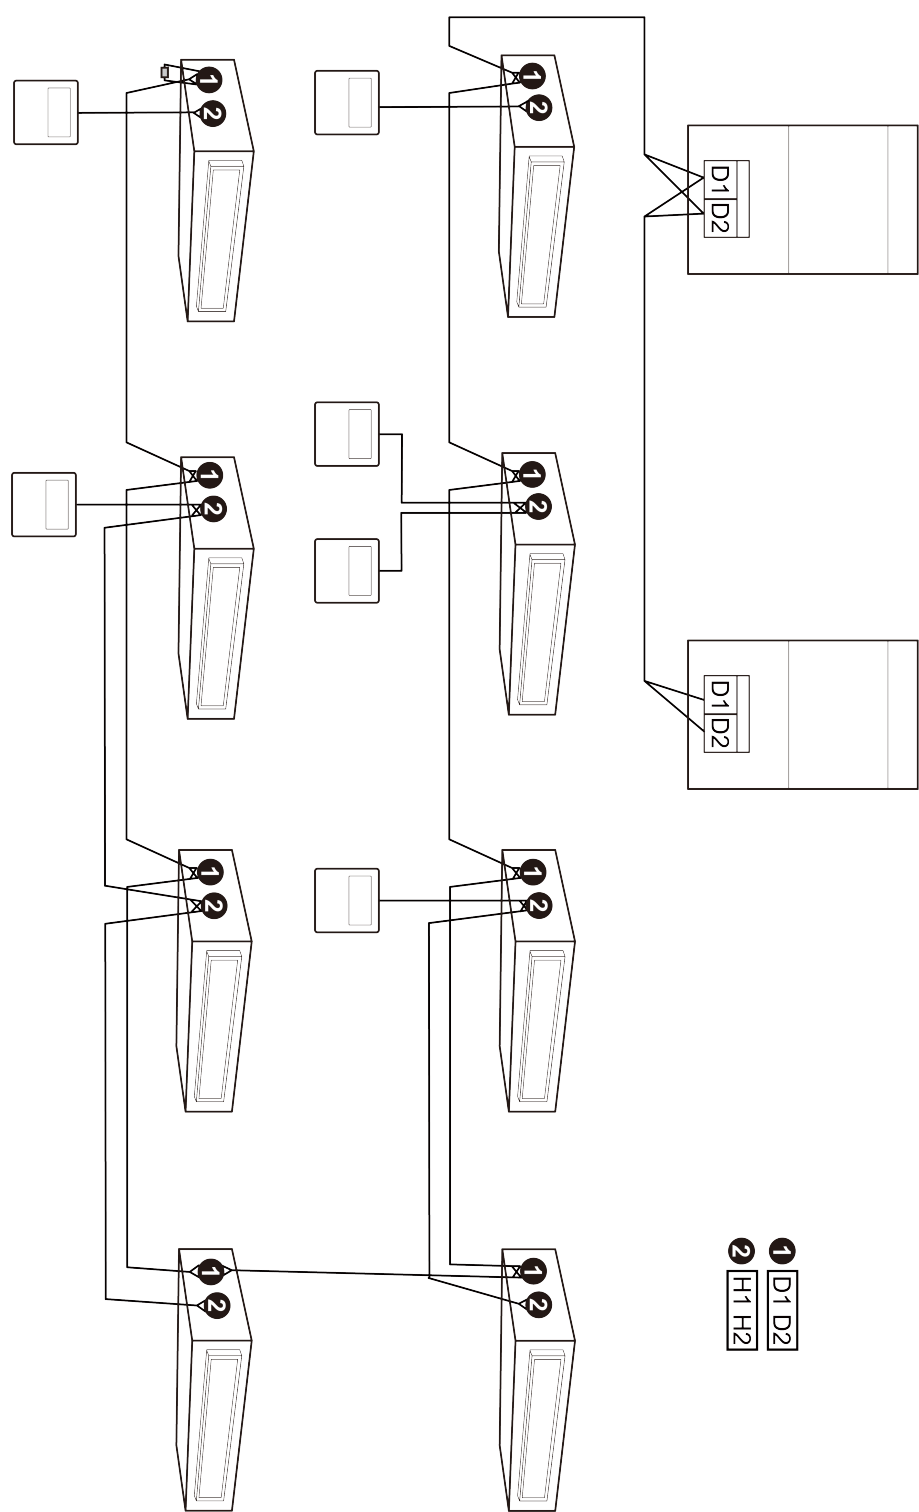

Fig.5.5
- (1) Communication wire of indoor unit and outdoor unit (or indoor unit) is connected to D1, D2.
- (2) Wired controller is connected to H1, H2.
- (3) One indoor unit can connect two wired controllers that must be set as master one and slave one.
- (4) One wired controller can control 16 indoor units in maximum at the same time (as shown in Fig.5.5).